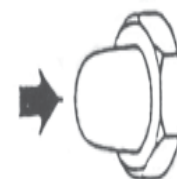

Figure 58. Emergency Stop Button
1. To stop the engine in the event of an emergency, **PUSH** the emergency stop button (Figure 58) inward. This button is located on the generator's engine operating panel, see page 32, Figure 10.